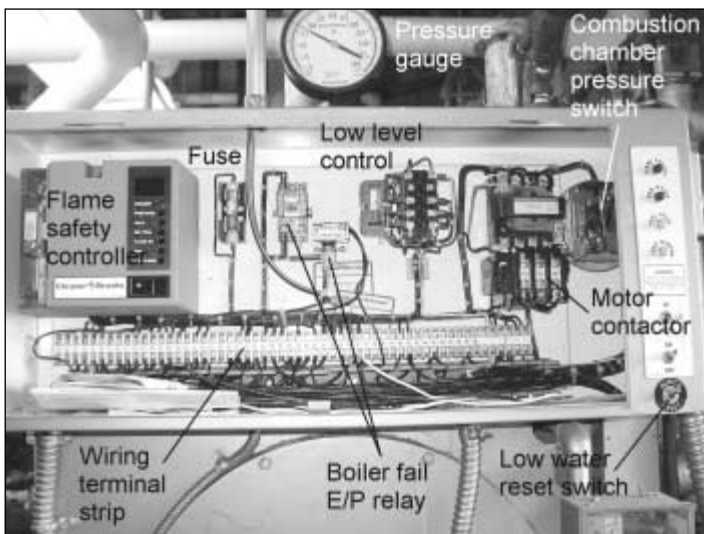

FIGURE 11.5 Boiler control panel.
Larger boilers have more sophisticated control and safety systems for a couple of reasons: (1) the cost of the controller is cheap relative to the cost of the rest of the boiler, and (2) the need for better control is critical for human and equipment safety. Continuous, modulating fire control is used in large boilers where the cost of a gas flow regulator is relatively low and can be easily incorporated into the rest of the control panel (Figure 11.5). Modulating control allows for full, variable control from the low-fire level all the way up